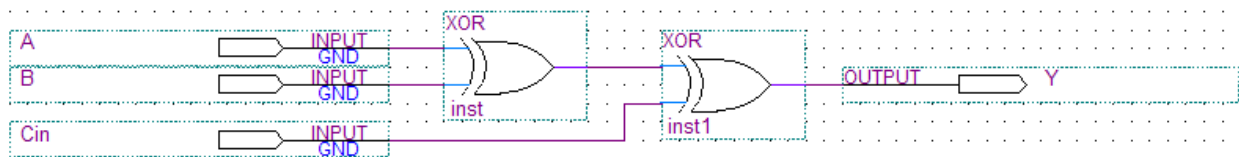

Figure 4. Schematic for sum logic
From the truth table, we now want to implement our design using logic gates. The sum output (S) can be produced from the inputs by connecting two 2-input XOR gates as shown in Figure 4. You should convince yourself that this circuit produces the outputs for S as given in the table.
Use the Orthogonal Node Tool () to wire the gates together. Click and drag to connect the pins to gates and the two gates together. At this point, your schematic should resemble Figure 4. It's